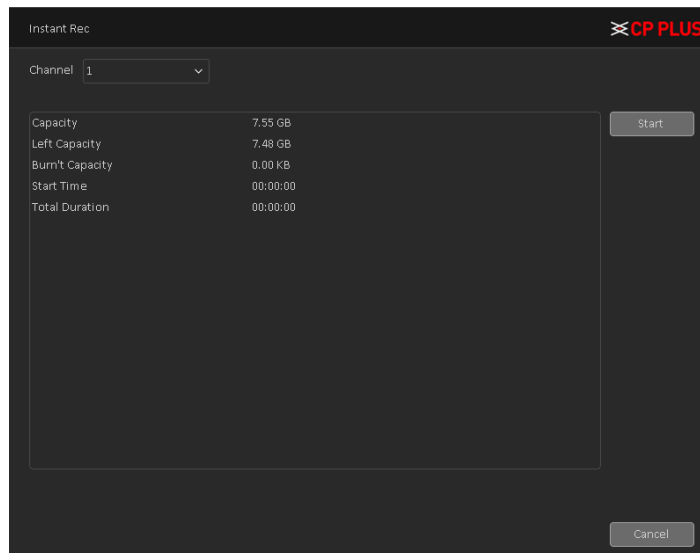

Figure 4.54
- **[Instant Rec]** User can instantly record live stream in backup drives, insert Backup drives like flash drive or external drive in DVR (WITHOUT HDD) when the device detected by system then click on instant Rec. In new window here to select channel No. and click on start button. DVR (WITHOUT HDD) will start recording in backup drive until user click on stop button. See Figure 4.54